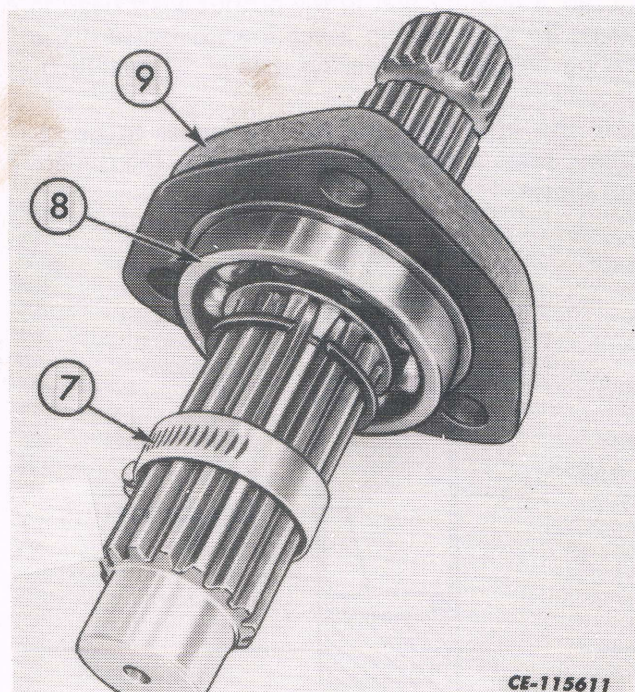

Fig. 27
1. Install PTO gear (4) with fork (3) in the housing. Coat the fork blocks with petroleum jelly. See Fig. 27.
2. With a new "O" ring on the selector fork shaft (2), install the output shaft (6). See Fig. 27.
6. Install the roll pin (1) in the selector fork shaft (2). See Fig. 27. Install the pipe plug (4) in the housing. See Fig. 29.
7. Install the idler gear (2) and shaft (1) with the shoulder of the gear towards the idler gear support. Install the roll pin.